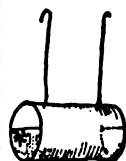
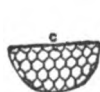

Fig. 66.
Fig. 65.
- Fig. 65.—End piece of wire netting.
- Fig. 66.—Cylinder with ends in place and wires attached for hanging it.
is shown by the small diagram (Fig. 65). Fasten two pieces of wire to the top of this cylinder (Fig. 66); hang it to the ridge pole and fill the inside with dry leaves for a summer nest.